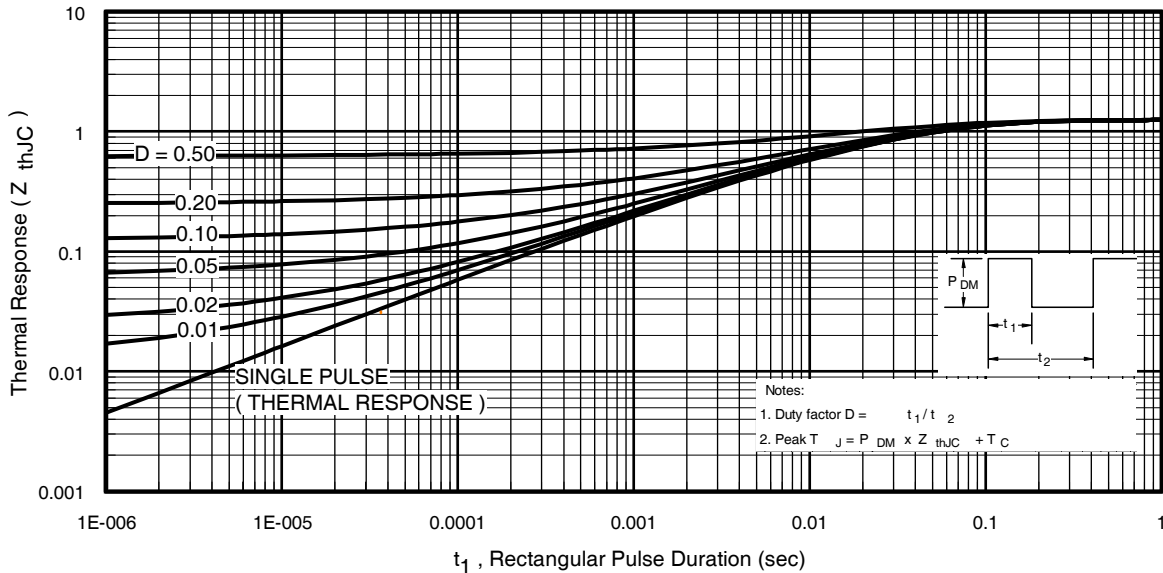

Fig 11. Maximum Effective Transient Thermal Impedance, Junction-to-Case
- ① Repetitive rating; pulse width limited by max. junction temperature. (See fig. 11).
- ② Starting $T_J = 25^\circ\text{C}$, $L = 0.24mH$
$Z_{thJC}(D, t_{av})$ = Transient thermal resistance, see figure 11)